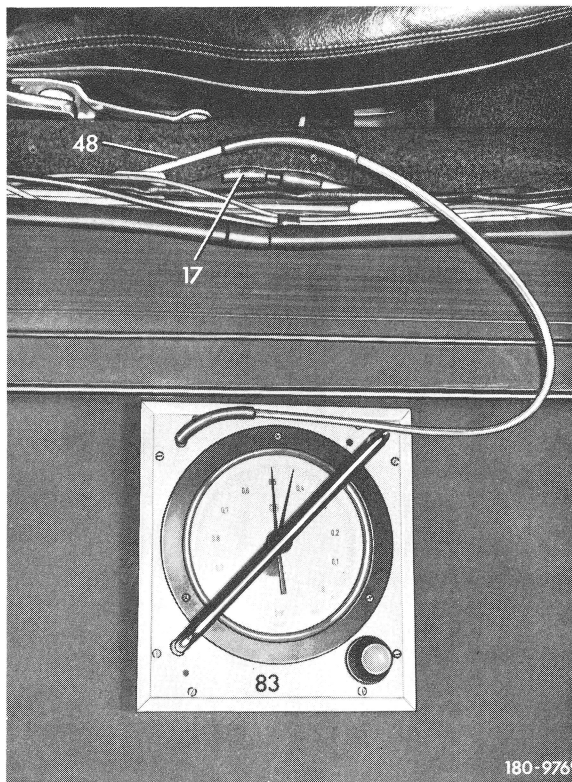

Fig. 4
Connect tester to blue vacuum line (48) and evacuate (Fig. 4).